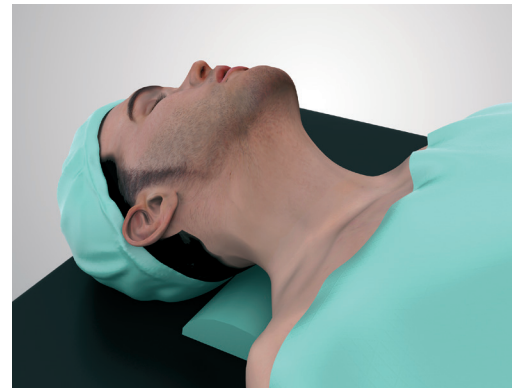

Figure 1
- ▲ Place the patient in a supine position on the operating table (Fig. 1). Ensure that the neck of the patient is in neutral lordosis. A shoulder roll may be placed either transversely or longitudinally, based on surgeon preference, to aid in neck extension.